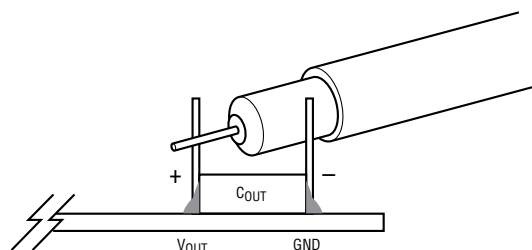

Figure 1. Measuring Output Voltage Ripple
Demonstration circuit 2824A-A is easy to set up to evaluate the performance of the LTC7131-1. Refer to Figure 1 for the proper measurement equipment setup and follow the procedure below.
1. When measuring the output or input voltage ripple, do not use the long ground lead on the oscilloscope probe. See Figure 1 for the proper scope probe technique. Short, stiff leads need to be soldered to the (+) and (-) terminals of an output capacitor. The probe's ground ring needs to touch the (-) lead and the probe tip needs to touch the (+) lead.